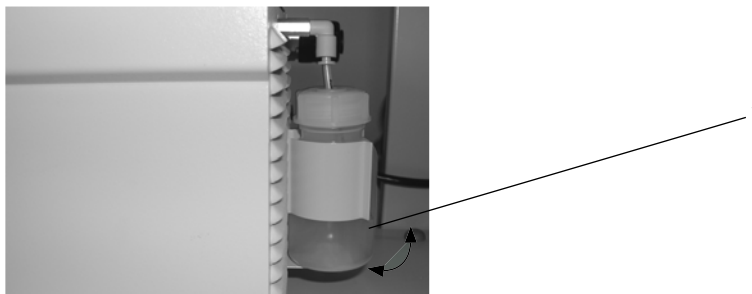

Fig. 4 – 1 Condensate collector
- Remove the condensate collector (Fig. 4 – 1/1) from the holder on the rear side of the compressor.